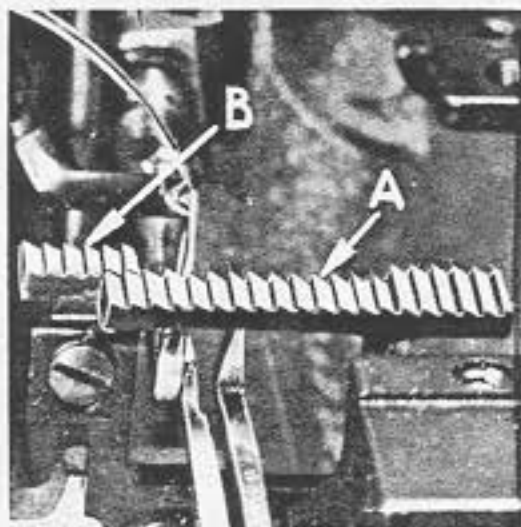

Fig. 10
Assemble chaining feed dog (B, Fig. 10) to main feed dog (A).